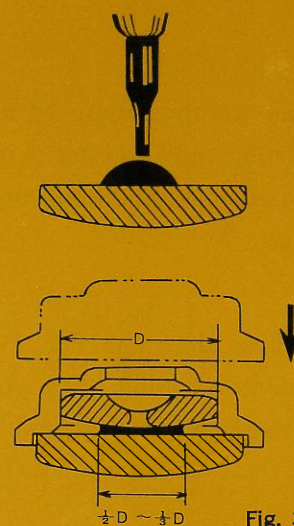

Fig. 3
After cleaning or applying Epilame treatment, cover the cap jewel and hole jewel with frame from the right above after oiling the cap jewel. Apply oil so that the quantity spreads over a maximum of one-half to a minimum of one-third of the hole jewel diameter (D), in the condition of setting the cap jewel, and hole jewel with frame, as shown in Fig. 3. (Moebius Synt-A-Lube)